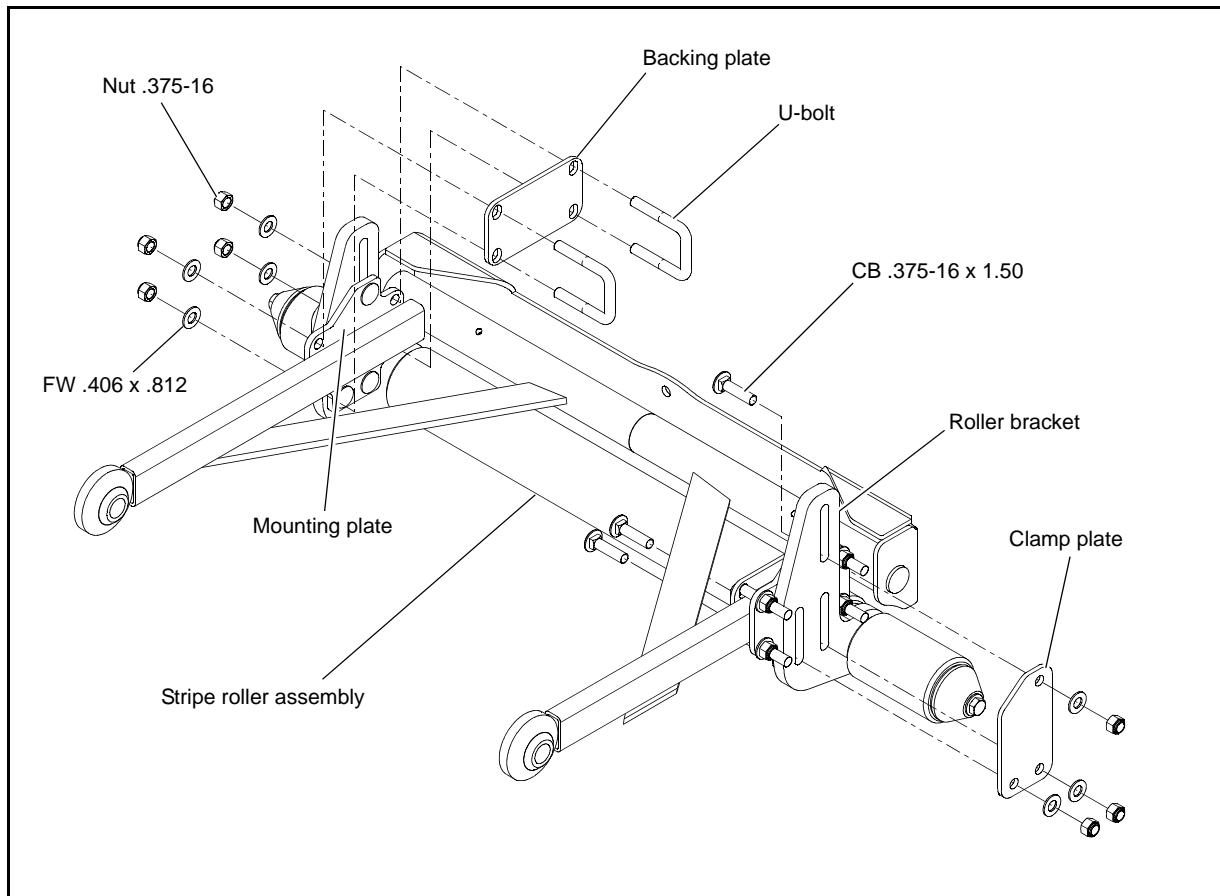

FIG. 1
3. Attach the backing plates and mounting plates to the pusher arms. Align the three bolt square hole pattern of the mounting plate as shown. Fig. 1
4. Slide the stripe roller into position and insert the carriage bolts through the mounting plate and the roller bracket as shown. Place the clamp plates in position and secure with the flat washers and nuts. Fig. 1